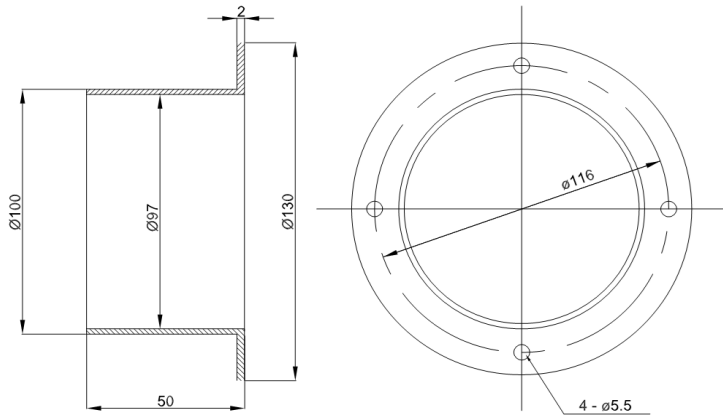
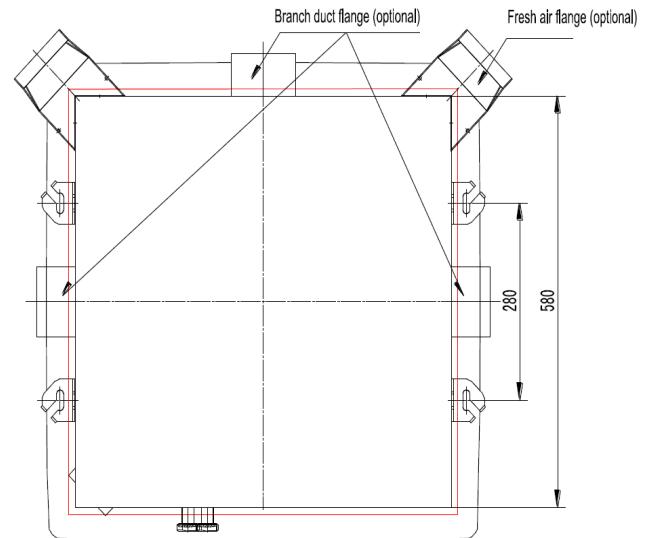

Figure B.11.1
Figure B.11.2
- Dimensions and location for connection are shown in Figure B.11.1 and Figure B.11.2.